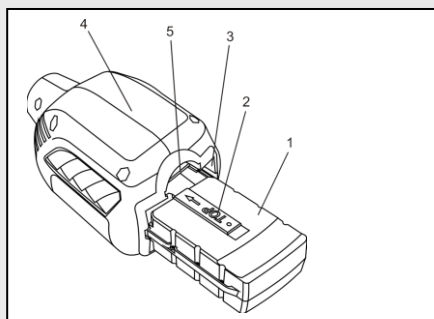

Fig. 6
Position the Power Cell (1) with the "TOP" label (2) facing upward (Fig. 6).